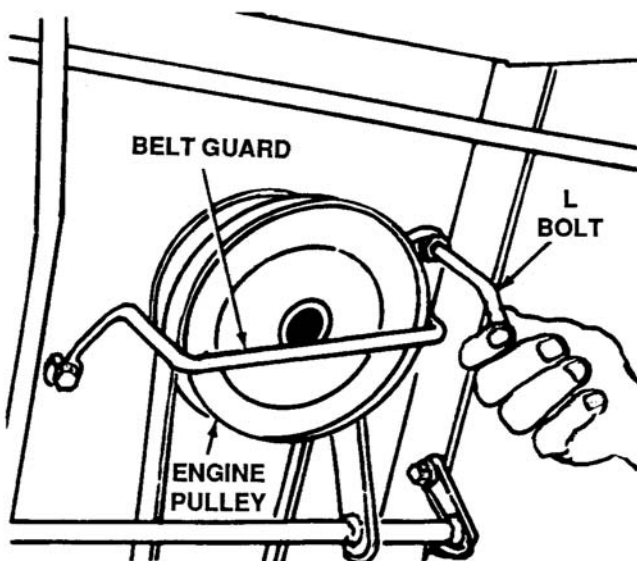

Figure 4-74. Releasing Belt Guard
4. Release the belt guard by unscrewing the L bolt next to the engine pulley. See Figure 4-74.